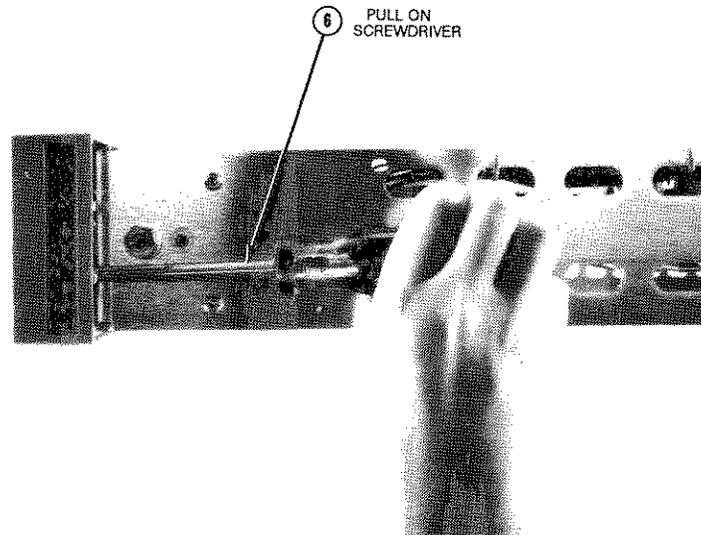

Figure 3-18. Remove Front Panel Assembly
7. Refer to Figure 3-18. Insert a large screwdriver between the Front Panel assembly and the chassis, as shown in the figure. With the screwdriver, carefully pry the left side of the Front Panel assembly loose. Move the front panel out of the chassis until it unlocks from the chassis. Do not move it any more, or it may break.